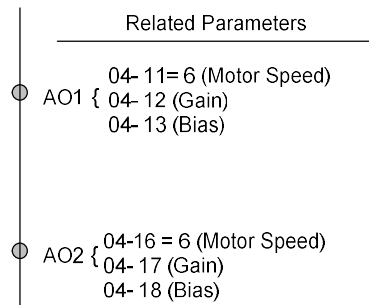

Figure 4.3.151 Analog Output Settings
- (1) In V/F + PG mode, the proportional (P) gain and integral (I) time are set for both the minimum output frequency (parameters 20-02 and 20-03) and maximum output frequency (parameters 20-00 and 20-01). Refer to Figure 4.3.151.